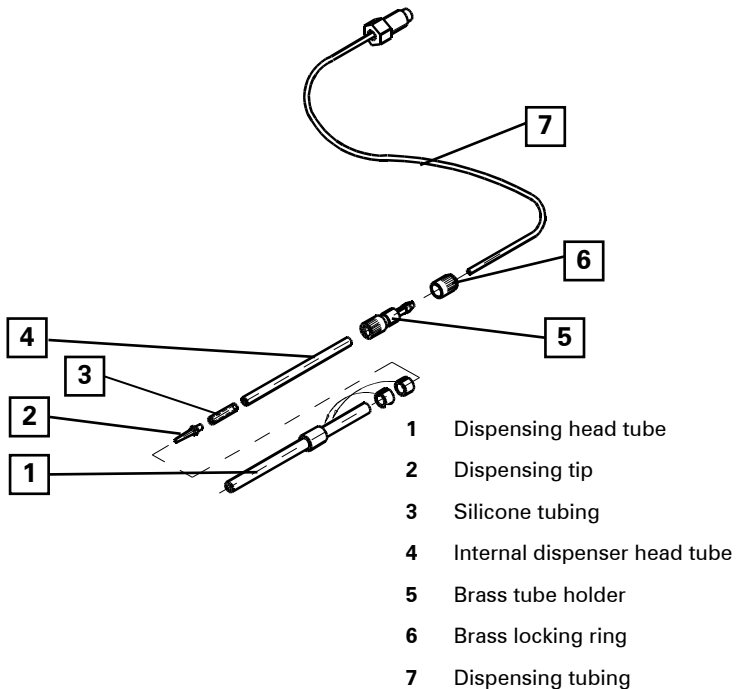

Fig. 5.6.1 Structure of the complete dispensing tube assembly
3. Remove the dispensing head tube (Fig. 5.6.1:1) from the brass tube holder (Fig. 5.6.1:5).
4. Loosen the brass locking ring (Fig. 5.6.1:6).
5. Remove the dispensing tip (Fig. 5.6.1:2) and the connecting piece of silicone tubing (Fig. 5.6.1:3).
6. Remove the internal dispenser head tube (Fig. 5.6.1:4), the brass tube holder and the brass locking ring.